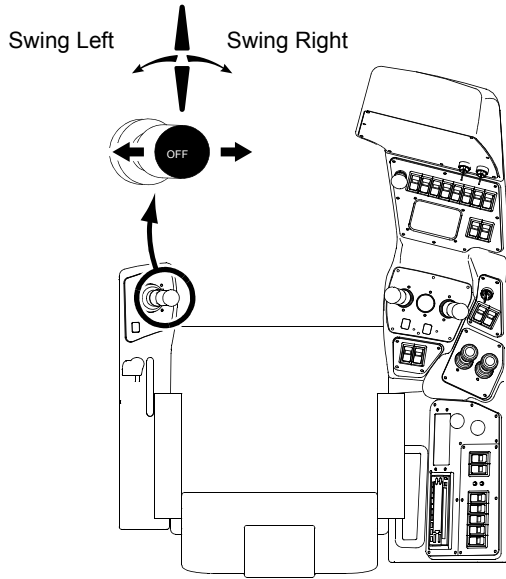

FIGURE 3-18
See Figure 3-18 for swing operation.
3. Push the swing handle to the left to swing left. Pull the handle to the right to swing right. See Figure 3-18.